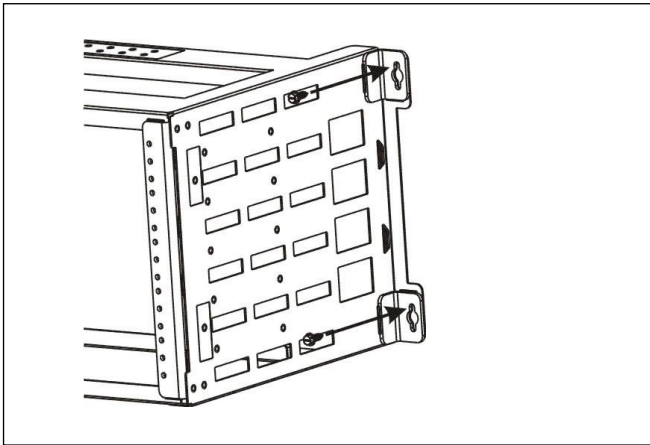

Figure 6. Mounting screw locations
- ① Select an appropriate location on a wall or backboard to install the mounting frame. Choose a mounting surface and hardware that can support the combined weight of the mounting assembly and equipment that is to be installed. Mounting to a 3/4" thick backboard with #12 x 1" screws is recommended. Maximum weight holding capacity of the WR-5UI2 is 100 lbs.
- ② Determine the desired orientation of the ground lugs. The symmetrical design of the WR-5UI2 frame allows it to be installed with the grounding holes facing upward or downward.
- ③ Tape the drill template to the wall ensuring it is level. The drill template provides information for multiple wall mounted racks. Be sure to use the hole symbol (A). Drill four (4) 3/16" pilot holes. These holes mate with the four mounting brackets located at the rear corners of the frame. The frame will be fastened with one screw in each of the brackets, as shown in Figure 6.